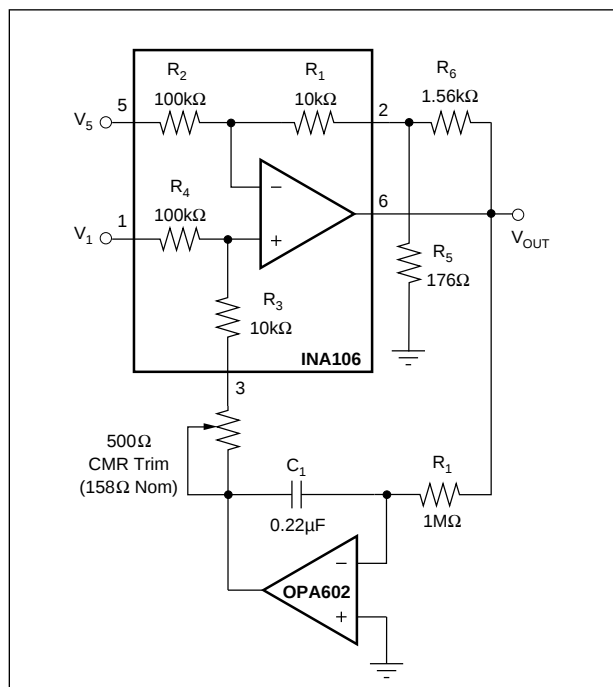

FIGURE 3. AC-Coupled $\pm 100\text{V}$ Difference Amp Using the INA106.
The simplest circuit for the DC-restored INA106 is shown in Figure 3. The INA106 is reversed from its normal Gain-of-10 configuration. The 100kΩ, 10kΩ resistors form a 11/1 voltage divider on the input so that $\pm 100V$ at pins 1 and 5 are divided down to less than $\pm 10V$ at the op amp inputs. The R_5 , R_6 network provides the proper feedback Gain for an overall unity-gain transfer function. Since the precise resistor matching of the INA106 is disturbed by the R_5 , R_6 network this circuit requires trims for both CMR and Gain.
NOTES (1) Reverse-connected, see figures 3, 4, and 5. (2) Gain is adjustable from 1 to 1000+. Noise and bandwidth depend on Gain setting. INA103 has the lowest noise: $1\text{nV}/\sqrt{\text{Hz}}$, Gain = 1000. INA103 has the highest bandwidth: 6MHz, Gain = 1. INA102 is low power ($750\mu\text{A}$ max). INA110 has FET inputs ($I_b = 50\text{pA}$ max). INA101 has lowest drift ($25\mu\text{V}/^\circ\text{C}$ max). INA120 is a lower IQ INA101 with internal resistors for Gains of 1, 10, 100, and 1000. (3) Yes!, the common-mode input range of standard IAs is only about $\pm 7\text{V}$ with $\pm 10\text{V}$ V_{OUT} ; see "Extended Common-Mode Instrument Amps", *Electronic Design*, December 22, 1988, pp 67, 68.